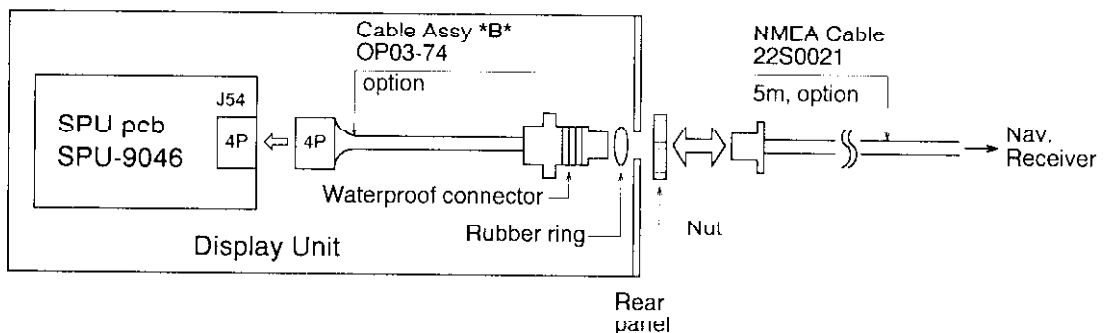

Figure 6-12 Navigational Receiver Connection
3. Fix the waterproof connector on the rear panel with the rubber ring and nut as shown in Figure 6-12.